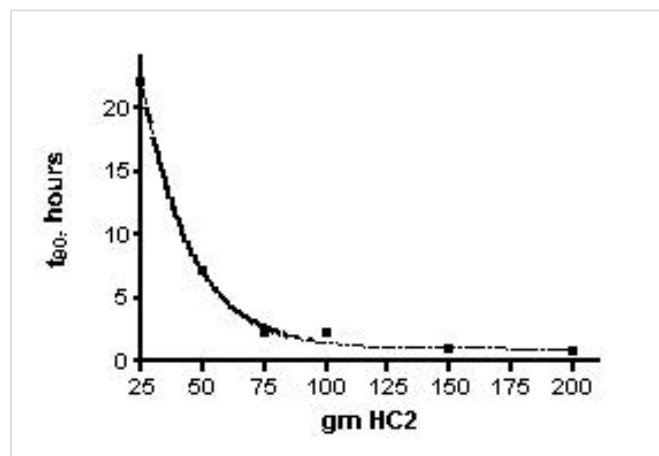

Figure 5.  $t_{90}$  values for dye removal as a function of the amount of HC2 used.
The time required to remove 90% of the dye ( $t_{90}$ , see Eq. (14) and the accompanying discussion) can be calculated for these experiments as well, see Table 2. These  $t_{90}$  values are specific to the conditions of the dye removal experiment (i.e., functions of flow rate and volume, mass of HC2, and the starting dye concentration). By plotting the  $t_{90}$  values as a function of the amount of HC2, the complex relationship between the quantity of HC2 and the rate of dye removal is revealed. These data are presented in Figure 5. It is apparent from inspection of Figure 5 that once a charge of 75 gm of HC2 (or greater) is used, the  $t_{90}$  values do not change much. Since the  $t_{90}$  values are a function of the rate